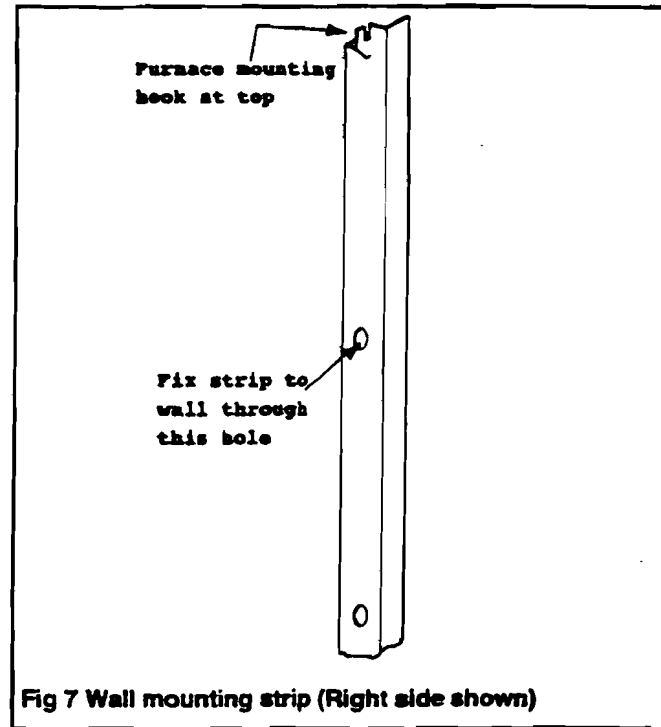

Fig 7 Wall mounting strip (Right side shown)
- 5.13 Place the right side wall mounting strip in position with the locating ear at the top and so that its two holes line up with the holes in the wall (see figure 7). Insert a wood screw through the upper hole. Make sure that the lower hole in the strip lines up with the hole in the wall. Tighten the screw in the upper hole firmly so that the strip will not rotate.